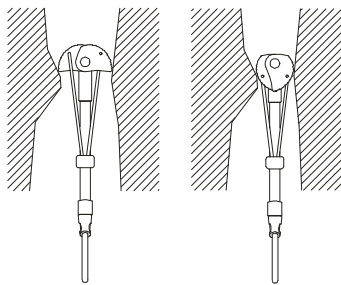

fig 3
2. Never place a unit so that the cam are offset, e.g. with two cams extended and cams retracted.( fig 3)